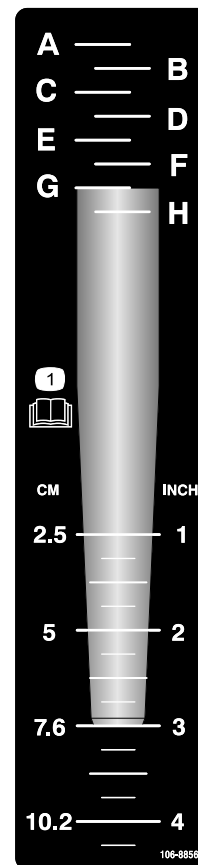

Figure 22
1. Lay the desired tine onto the depth decal while aligning the tine tip with the desired aeration depth as shown in Figure 22.
2. Determine the letter setting aligned with the mounting end of the tine (Figure 22). Adjust the depth control to the corresponding letter on the decal.